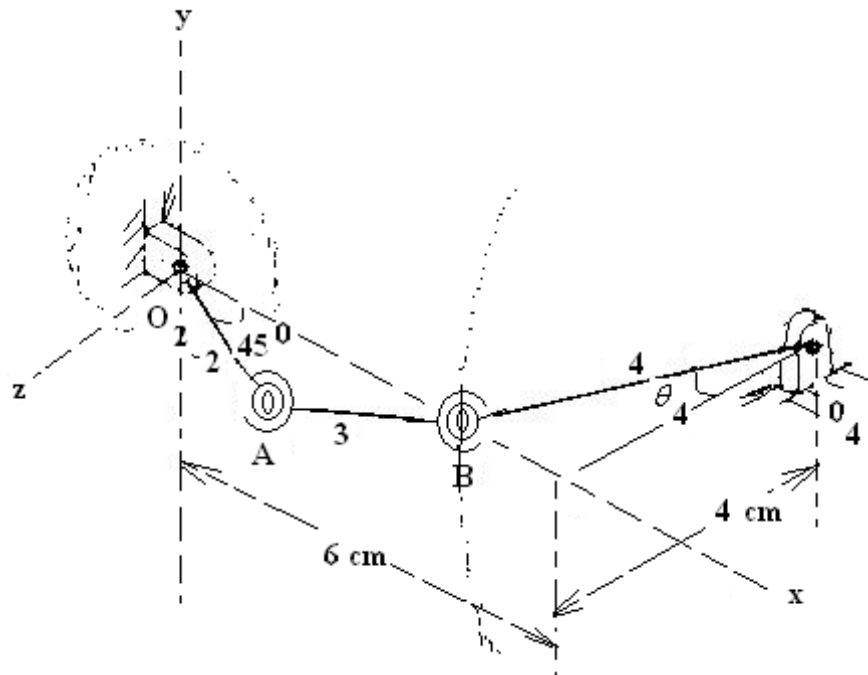

Figure 6:
4. A four-link RGGR crank-rocker mechanism shown below. The knowns are the position and plane of rotation of the input link, the plane of rotation of the output link, and dimensions of all four links. Find the positions of all moving links when the input crank is set to $\theta_2 = -45^\circ$ as shown in Figure 6 below. Solve the problem using graphical approach.